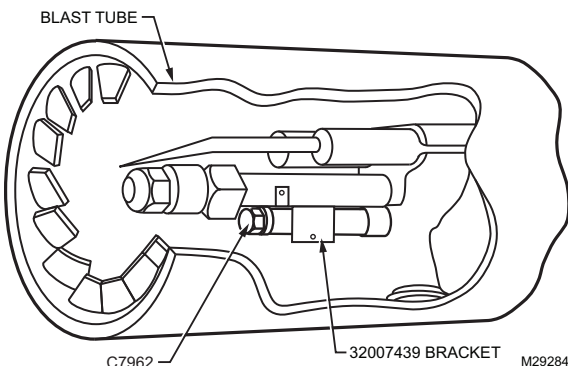

Fig. 6. Mounting a C7962 in a conventional pressure atomizing oil burner.
4. Adjust the assembly into a location to provide adequate clearance and for a clear view of the flame. Tighten the screw to secure into place. See Fig. 6.